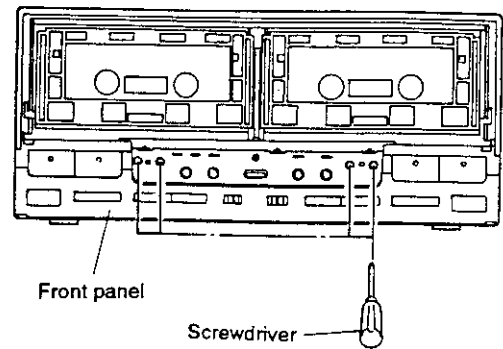

Fig. 8-6
4. Insert the screwdriver in each of the four holes on the front panel, and make azimuth adjustment. (See Fig. 8-6.)